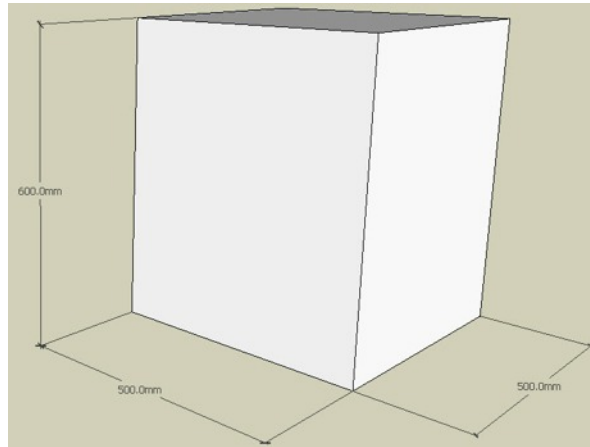

Figure 79. The rectangular box created with the required measurements
- In an open area of the drawing create a rectangle 500mmx500mm and use **Push/Pull** to pull the rectangle up by 600mm as shown in Figure 79.